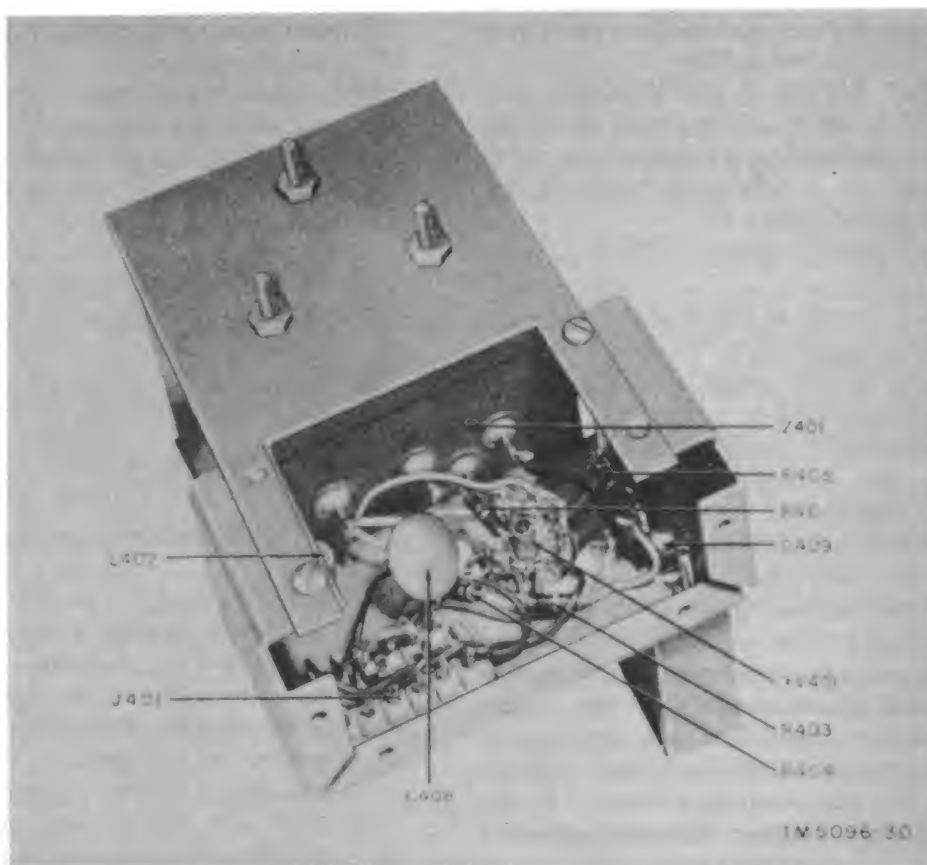

Figure 35. Frequency Meter FR-5/U, interpolation oscillator, location of parts, bottom view.
- (3) Remove tube V401 (fig. 35) from its socket in the interpolation oscillator.